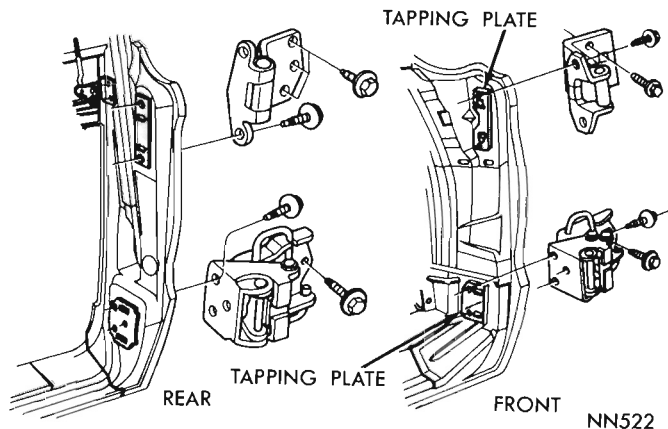

Fig. 22 - Door Hinges
Adjustment of the door can be made at either the pillar or door hinge halves (Fig. 22).
(4) Loosen the necessary hinge bolts to suit each door as follows: (Fig. 22).
- (c) For front door upper and lower hinge (door half) (2) upper and (3) lower bolts.
- (5) Readjust and fit doors to door openings for alignment of contour lines and belt surfaces.
- (6) Secure previously loosened hinge bolts (Fig. 22).
- (7) Readjust door latch striker.